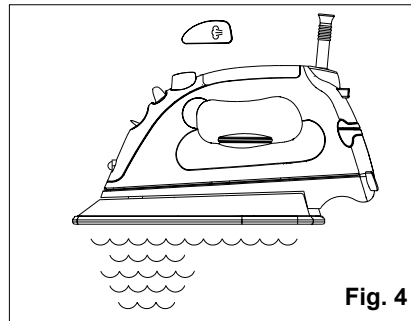

Fig. 4
- With the iron in a horizontal position, press the burst of steam button several times to prime the pump. See Figure 4.